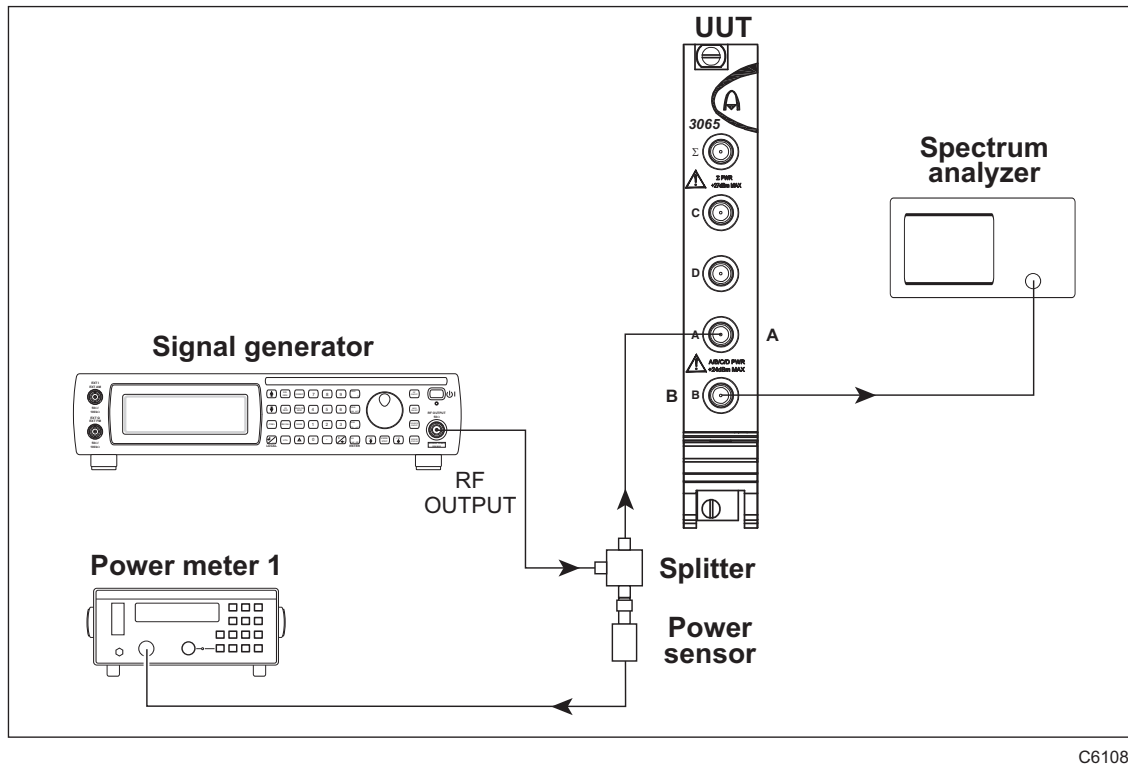

Fig. 5-2 Isolation test setup
- 1 Connect the test equipment as shown in Fig. 5-2 and terminate the other ports with 50 ohm terminations.